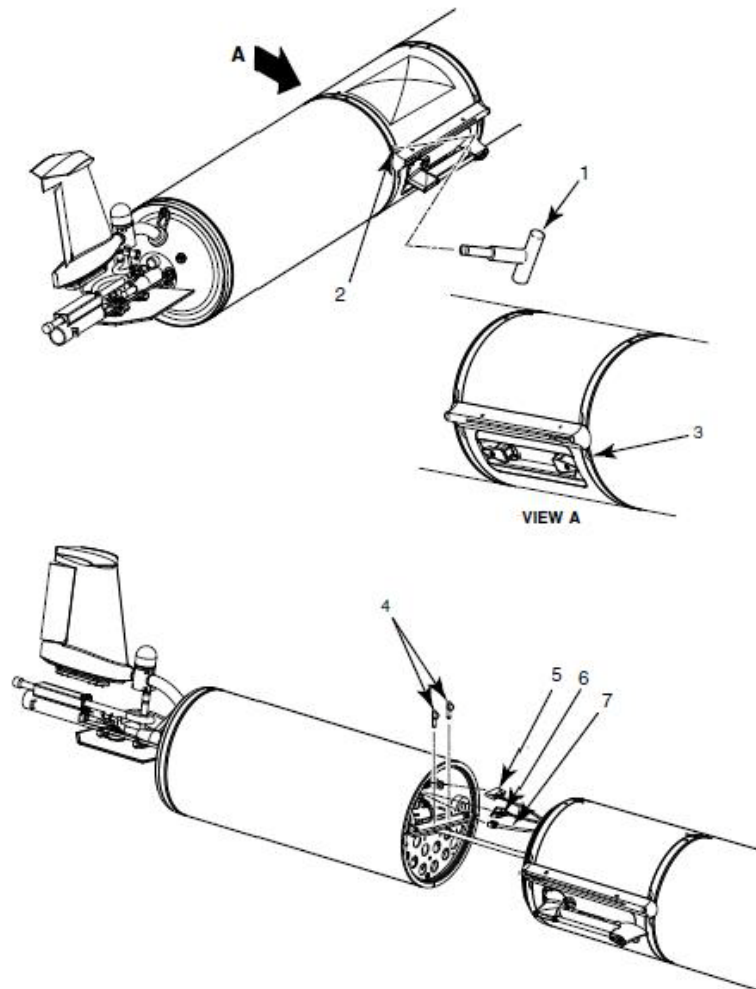

Figure 2-23 Aft assembly
1. Separate the aft hull section from the payload bay (Figure 2-23, Items 2-3) using the hull separation tool (Figure 2-23, Item 1).
2. Remove all connections (Figure 2-23, Items 5-7) from the payload bay to the aft assembly.
3. If the glider uses lithium batteries, free the aft battery pack from the payload bay by pulling the two pins from the battery bracket (Figure 2-23, Item 8).
2. Secure the aft battery pack to the payload bay with the two pins (Figure 2-23, Item 4).
3. Make all connections (Figure 2-23, Items 5-7) from the payload bay to the aft assembly.